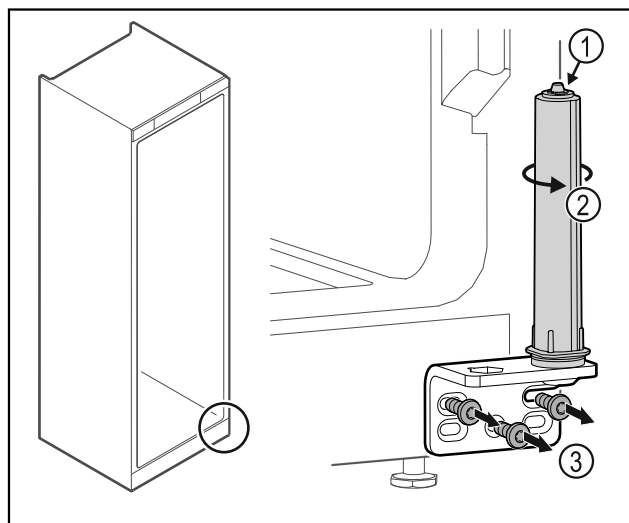

Fig. 18
- Do not disassemble the door closing system Fig. 18 (1).
- Turn the closing system Fig. 18 (2) until it clicks.
- Unscrew the hinge Fig. 18 (3).